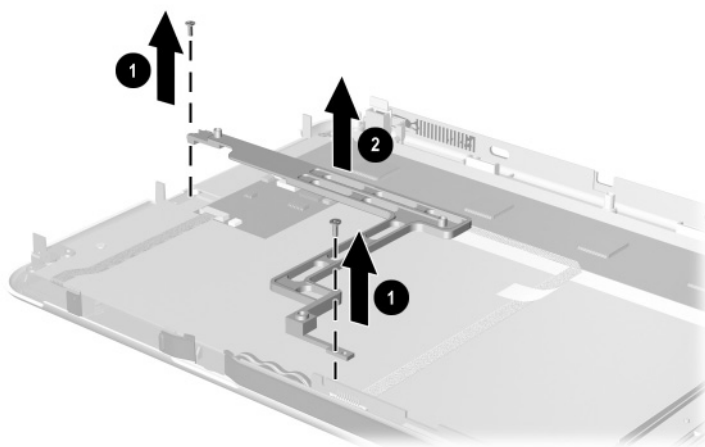

Figure 5-12. Removing the Display Panel Bracket
13. Remove the two PM2.0 × 5.0 screws ❶ that secure the display panel bracket to the display panel assembly (Figure 5-12).
14. Remove the display panel bracket ❷.